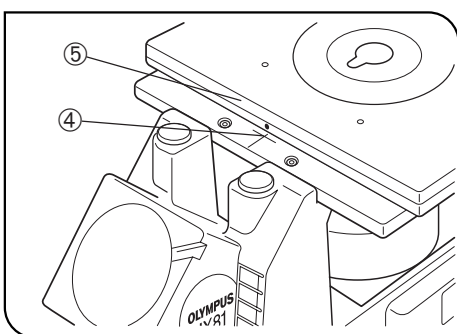

Fig. 73
1. Insert the stalk ② of the flexible X-axis/Y-axis knobs into the U-shaped notch on the positioning bracket ①.
2. Using the Allen screwdriver, tighten the clamping screw ③ of the bracket lightly to the stage.
3. Align the stage's center alignment index line ④ with the edge ⑤ of the upper stage. (Fig. 73)